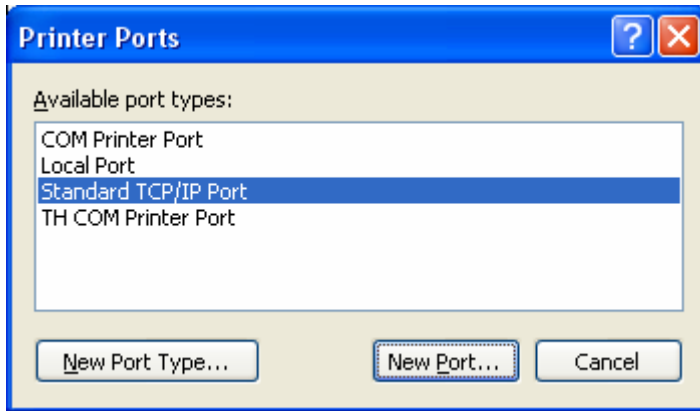

Figure 5.5.3 Printer Ports window
- 3) Select “Standard TCP/IP Port” in the list box of “Printer Ports” and click “New Port” Button as shown in Figure 5.5.3;